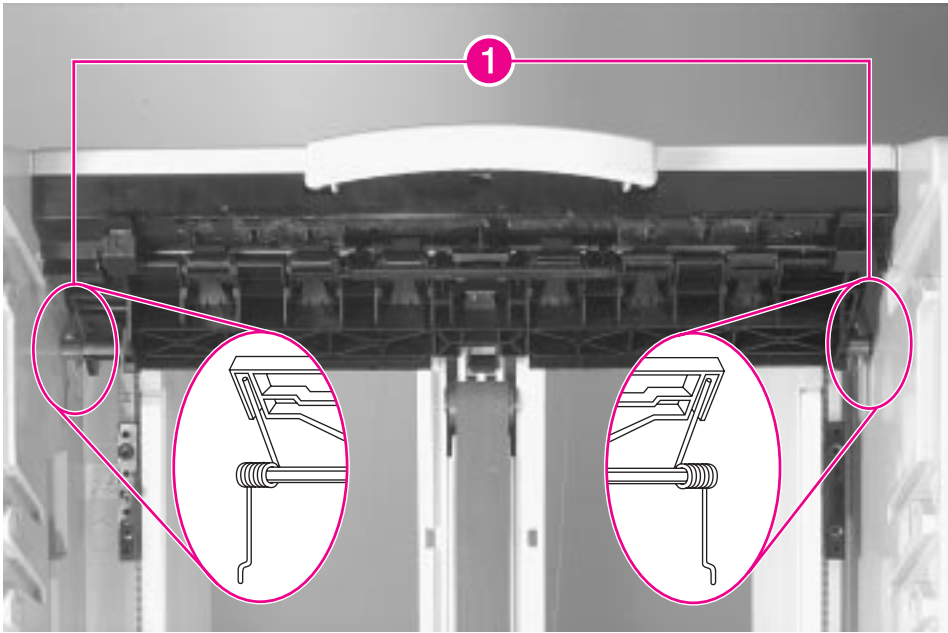
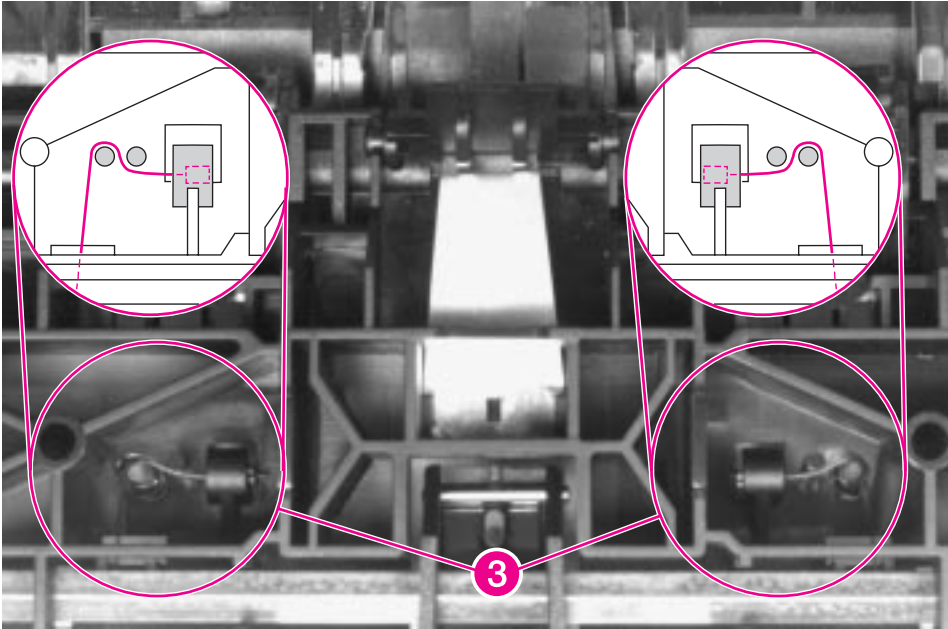

Figure 6-63 Mailbox with Stapler, Jam Access Door Springs
Figure 6-65 Mailbox with Stapler, Jam Access Door String Connection
- 4 Remove the Jam Access Door (see figure 6-63 on page 232 through figure 6-65 on page 234).
- 5 Release 2 retaining springs (figure 6-63, callout 1).
- 8 Release the upper ends of the Paper Guide Strings (figure 6-65, callout 3) from the assembly.
- 4 Remove the Jam Access Door Assembly (see figure 6-63 on page 232 through figure 6-65 on page 234).